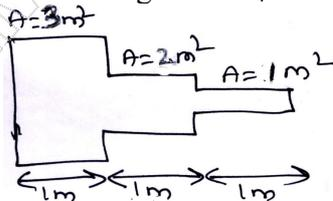

Fig.Q8(b) (12 Marks)
b. For the Smooth pipe of variable cross section as shown in Fig.Q8(b), determine the potential at junctions, the velocities in each section of pipe and the volumetric flow rate. The potential at left end $P_1 = 10 \text{ m}^2/\text{s}$ and at right end $P_4 = 1 \text{ m}^2/\text{s}$. Take $K_x = 1$.